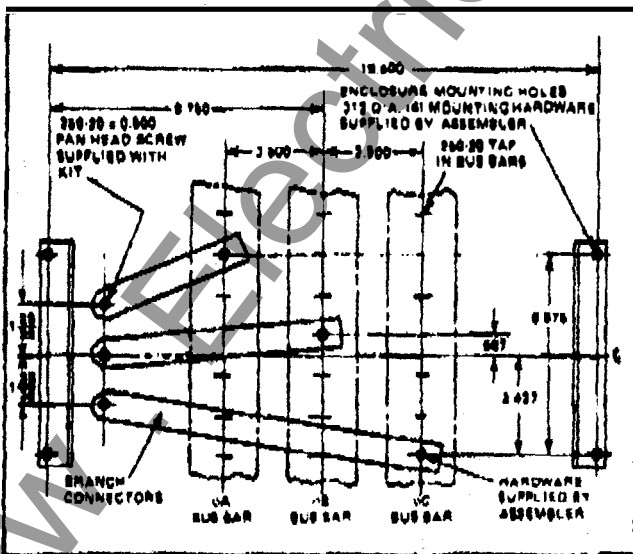
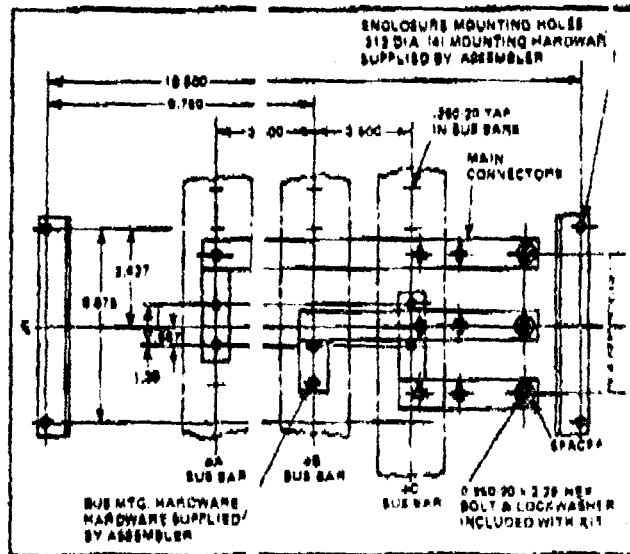

Fig. 1
Fig. 2
1. Position the main or branch connectors as shown in either Figure 1 or Figure 2.